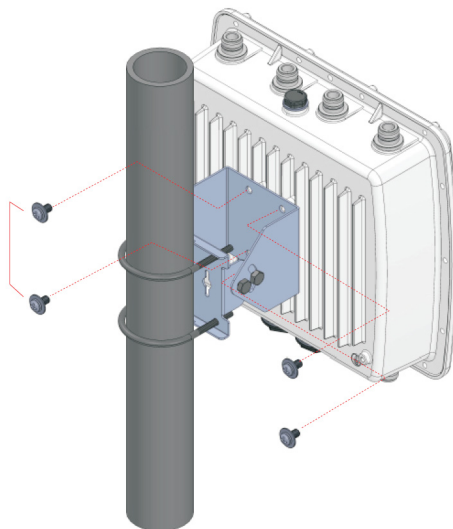

Figure 18. Attaching the Access Point to the Pole-Mount Brackets
3. Attach the access point to the pole-mount bracket with the screws using a Phillips-head screwdriver. See Figure 18.